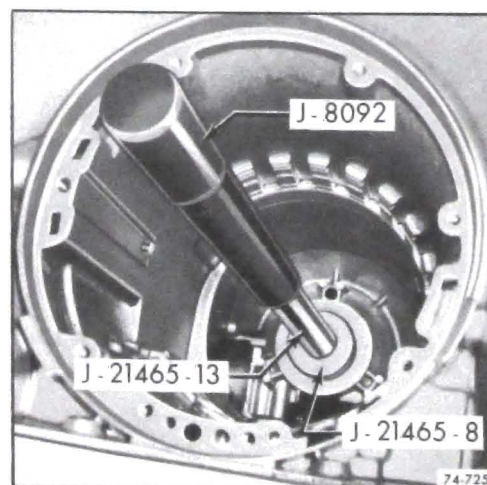

Figure 76-725
a. Thread Extension Handle J-21465-13 into Bushing Remover J-21465-8. Using Drive Handle J-8092 remove bushing. See Figure 76-725.